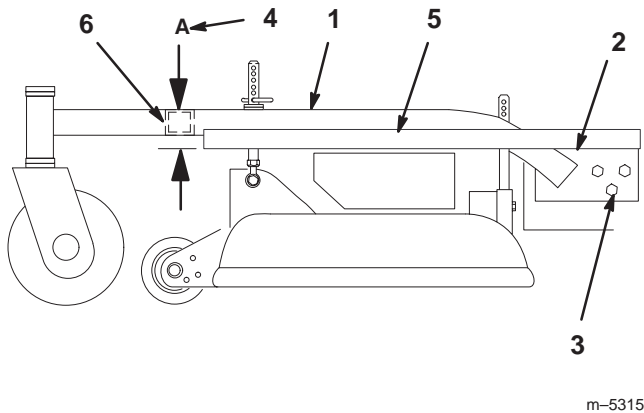

Figure 50
2. Place a long straight edge on top of the engine deck as shown in figure 50.
3. At the carrier frame cross tube, measure location **A** height (Fig. 50). This measurement must be 2–13/16 in., plus or minus a 1/4 in.
5. Loosen the carrier frame mounting bolts on both sides of the machine (Fig. 50).
6. Align the carrier frame and engine deck to match 2–13/16 in., plus or minus a 1/4 in. at location **A** (Fig. 50).